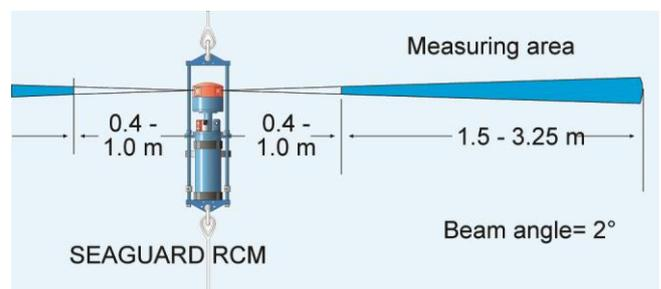

Figure 1-1 Measuring area of the SeaGuard RCM.
To minimize the effect of marine fouling and local turbulence, the ZPulse DCS is measuring the horizontal current at least 0.4 meter away from the instrument, refer Figure 1-1.
*Cell Start* is the distance from the instrument to the first cell, refer Figure 1-1. Choose from the drop-down menu or set an optional value between 0.4 and 1.0 meter.
*Cell Size* is the measurement area, refer Figure 1-1. Choose a value between 1.5 and 2.5 m.